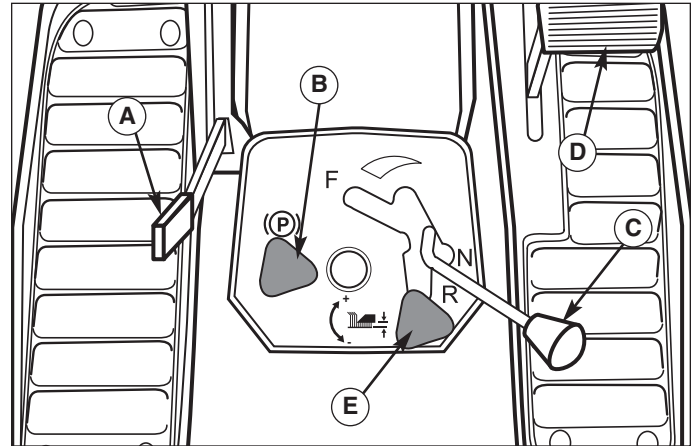

Figure 4. Controls
1. Remove the fuel cap (A, Figure 4).
Ground speed is selected by releasing the clutch/brake pedal (D, Figure 4) and moving the control lever (C, Figure 4) to the appropriate speed selection. If the terrain is rough, hilly or sloping, use first or second gear. If the grass is wet or over 3" (76 mm) high, use full engine speed (with slow ground speed) so the mower will have enough power to cut the grass.
1. If you are ready to mow, lower the mower from the transport position using lever (A, Figure 4) and set the mowing height using the Dial-A-Cut™ Control (E, Figure 4).
4. Release the parking brake by depressing the clutch/brake pedal and pushing knob (B, Figure 4) down.
5. Move the ground speed control lever (C, Figure 4) to the desired direction and speed of travel to set the rider in motion.
1. Move the ground speed control lever (C, Figure 4) into the NEUTRAL position to make a gradual stop. To make a more rapid stop, depress the clutch/brake pedal (D, Figure 4).
2. Engage the parking brake by fully depressing brake pedal and pulling up on parking brake knob (B, Figure 4).
1. When traveling to or from the work site, fully raise the mower using the mower lift lever (A, Figure 4). At the work site, lower mower using the lift lever.
2. Use the Dial-A-Cut™ control (E, Figure 4) to adjust the height of the mower. Pull back slightly on mower lift lever (A, Figure 4) to relieve pressure and turn clockwise to raise mower cutting height, or counter-clockwise to lower cutting height.